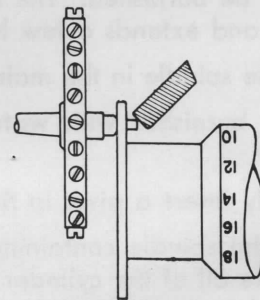

Fig. 11
4. Burnishing either the cylinder surface or the end of a pivot may produce a sharp or burred edge around its end. This must be removed and is accomplished by presenting the oily burnisher on an angle to the axis of the pivot. Figure 11. The burnisher and wheel are moved in the same manner as before.